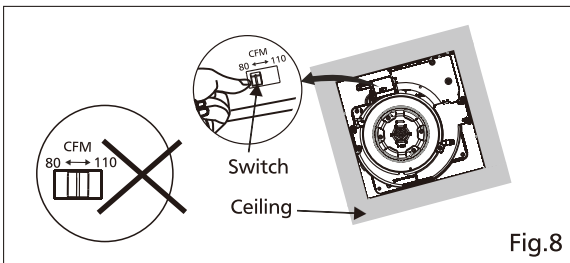

Fig.8
10. Select the air volume speed by adjusting the switch. Factory setting is "80" position; sliding "110" is high airflow position. (Fig.8)